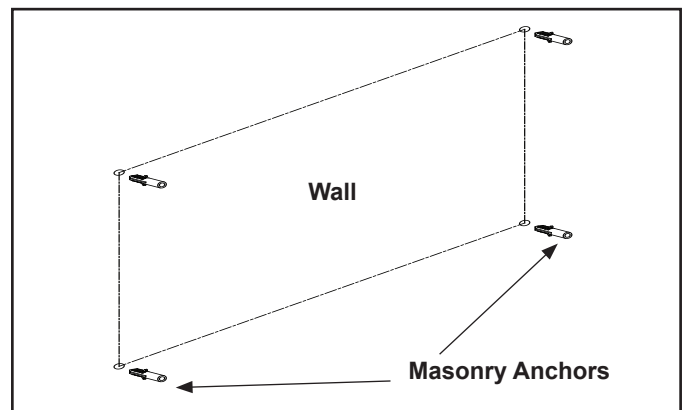

Figure 4.2 Masonry Anchor Placement
- Attach the bracket to the masonry anchors with four 5 x 40 screws. See Figure 4.2